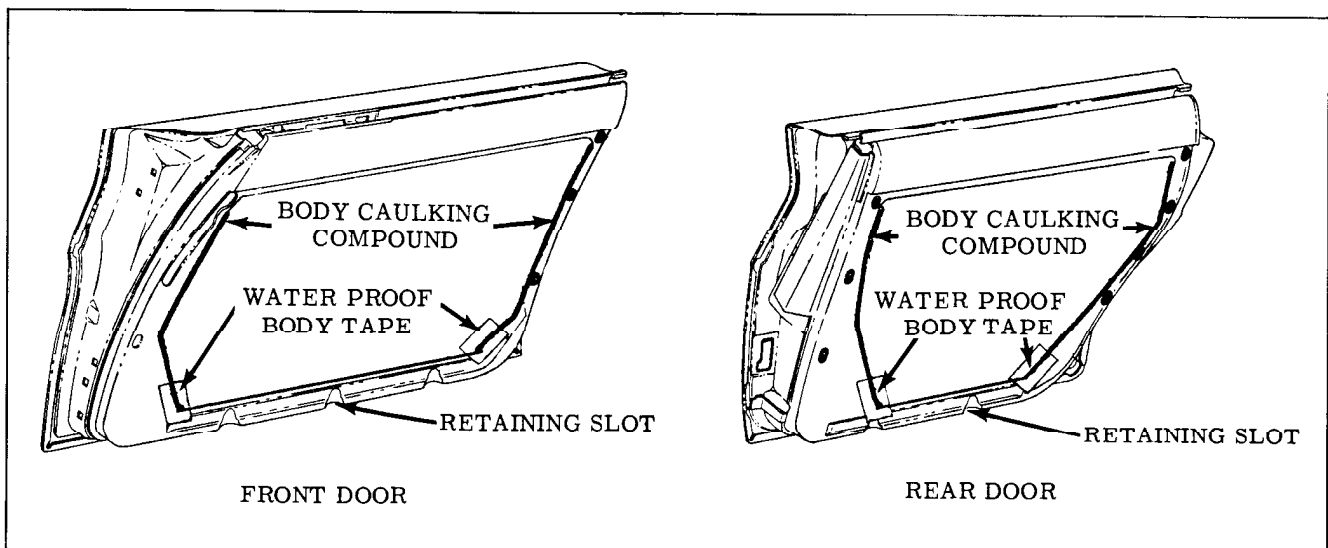

Fig. 15-19 Door Inner Panel Water Deflector Installation
2. Remove strips of waterproof body tape securing lower corners of water deflector. (Fig. 15-19)
2. If a new water deflector is to be installed, use old water deflector as a template, trim new deflector to proper size and cut holes for door inside hardware. If old sealer does not effect a satisfactory seal, apply a bead of body caulking compound (approximately 3/16" diameter) to inner panel at unsealed areas. (Fig. 15-19)
5. Seal lower corners of deflector with 2" or 2-1/2" water proof body sealing tape. (Fig. 15-19)